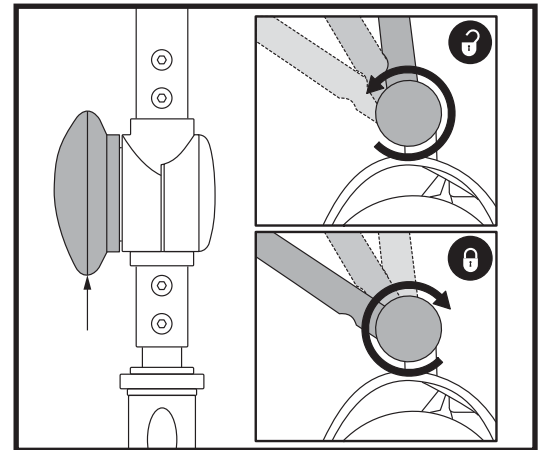

Figure 22. Tiller Adjustment Knob
TILLER ANGLE ADJUSTMENT (See figure 22)
1. With the seat and battery pack removed (see Disassembly Procedures on previous page), lower the tiller and tighten the tiller adjustment knob. **See figure 22.**
3. Raise the tiller and fully tighten the tiller adjustment knob. **See figure 22.**